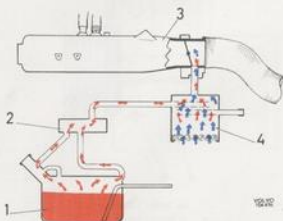

Fig. 2-176. Gas evaporative control system, principle
Gas fumes forming in the hermetically sealed container, particularly during warm weather, are conveyed to the expansion container (2, Fig. 2-176) and from there to the venting filter (4) where they are mixed with the active carbon.